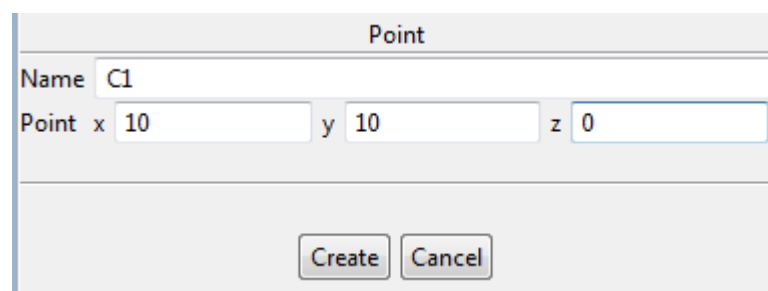

Figure 2. Point wizard with specified parameters for construction geometry element - point
- Specify parameters for the point in the **Point** wizard, which appears under the table (see Figure 2):